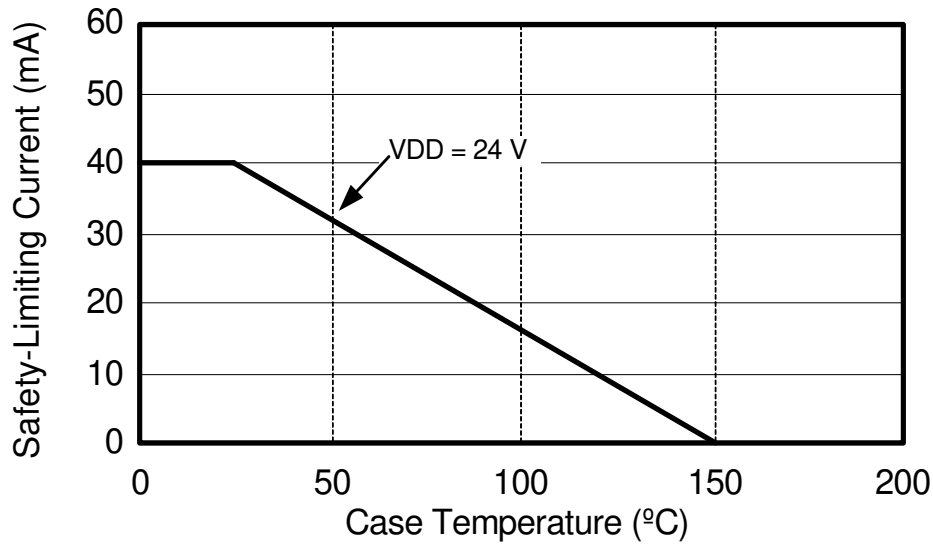

Figure 5. (NB SOIC-8) Thermal Derating Curve, Dependence of Safety Limiting Values with Case Temperature per DIN EN 60747-5-2
- Maximum value allowed in the event of a failure; also see the thermal derating curve in Figures 5 and 6.